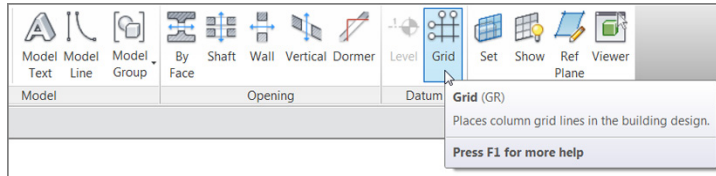

FIGURE 8.1: The Grid button on the Datum panel of the Structure tab
3. The Datum panel that holds the Level and Grid tools appears on both the Architecture and Structure tabs. On the Datum panel of the Structure tab, click the Grid button, as shown in Figure 8.1.